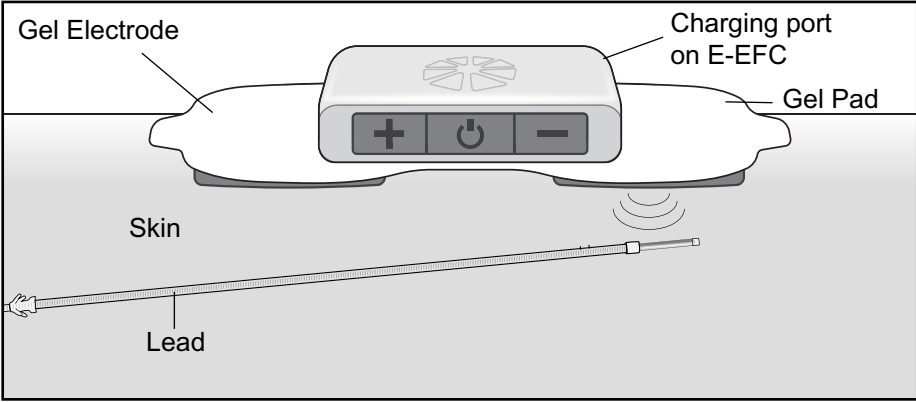

Figure 6-5: Correct stimulation position. (Illustration not to scale.)
4. Align the Gel Electrode directly over the end of the StimRouter lead. The center of the gel pad should be above the StimRouter. See Figure 6-5.